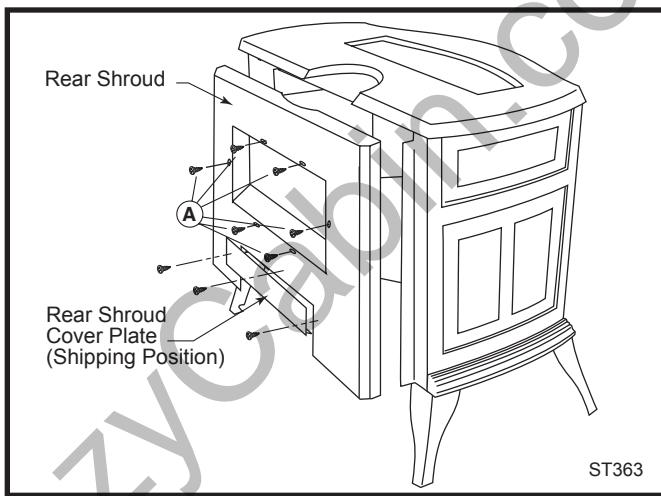

Fig. 11 Remove/replace rear shroud.
2. Remove the rear shroud. (Fig. 11) Use work gloves to protect your hands. Remove the rear shroud cover plate. Remove the six sheet metal screws ('A', Fig. 9) surrounding the draft hood opening. Remove the shroud and set it aside.